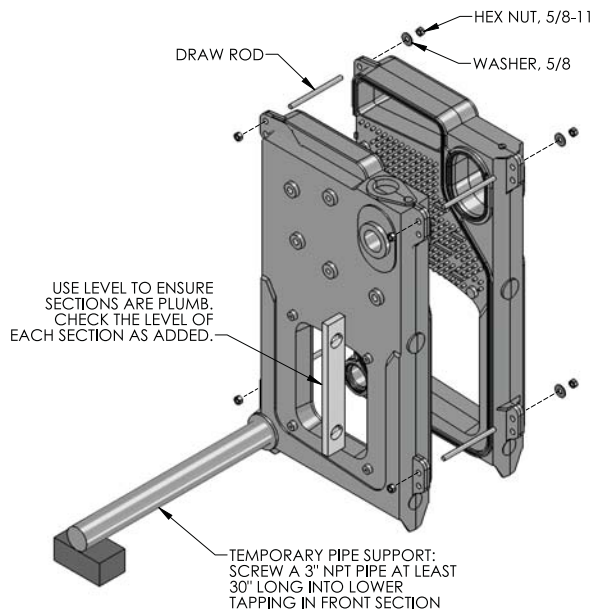

Figure 2.2: Front Section Support
5. The Front Section should be supported vertically as shown in Figure 2.2. Install a 3" NPT x 30" (762 mm) long pipe in the wash out connection at the front of the section and block with wood.
12. Install the draw rods as shown in Figure 2.2 and tighten them lightly. Use only one washer per draw rod. Tighten nut on washer side only.